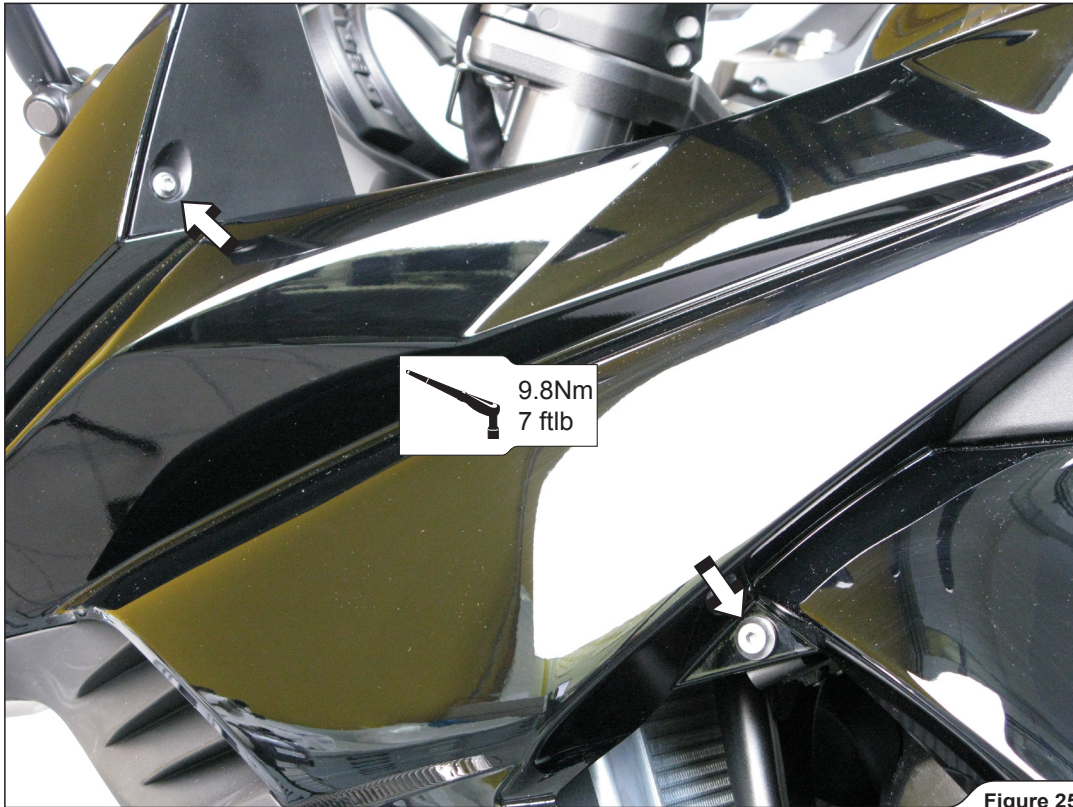

Figure 25
9. **For Z1000SX model only:** Reconnect the turn signal electrical connectors and replace all cowlings in the reverse order from the order in which they were removed (**Figure 25, 26**).